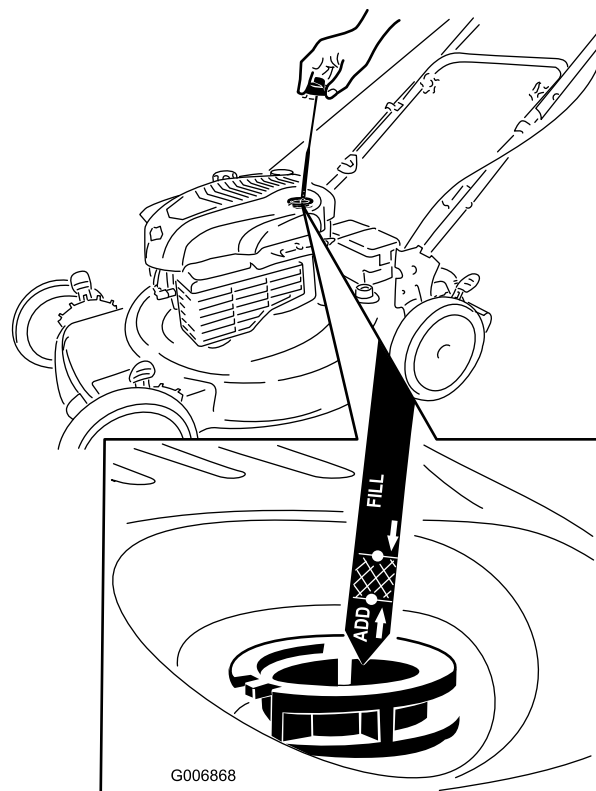

Figure 30
2. Remove the dipstick (Figure 30).
4. **Slowly** pour oil into the oil fill tube until the oil level reaches the **Full** line on the dipstick (Figure 30). **Do not overfill.** (Max. fill: 20 oz. (0.59 l), type: SAE 30W detergent oil with an API service classification of SF, SG, SH, SJ, SL, or higher.)